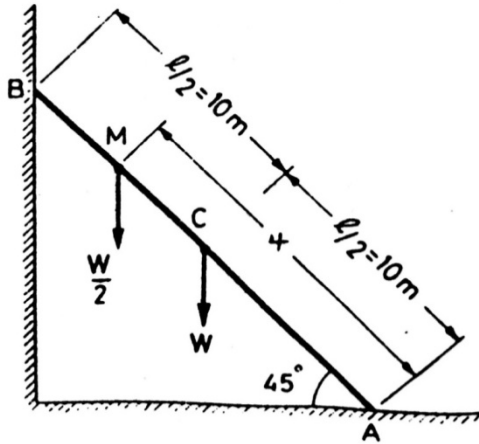

Figure 2.18
19. A uniform ladder AB of length $l=20 \text{ m}$ and weight W is supported by the horizontal floor at A and by a vertical wall at B . It makes an angle 45° with horizontal. If a man, whose weight is one-half that of the ladder, ascends the ladder, how much length x of the ladder he shall climb before the ladder slips. If a boy now stands on the end A of the ladder, what must be his least weight w so that the man may go on the top of the ladder? Assume coefficient of friction between the ladder and the wall as $1/3$ and that between the ladder and floor as $1/2$. (Figure 2.18)